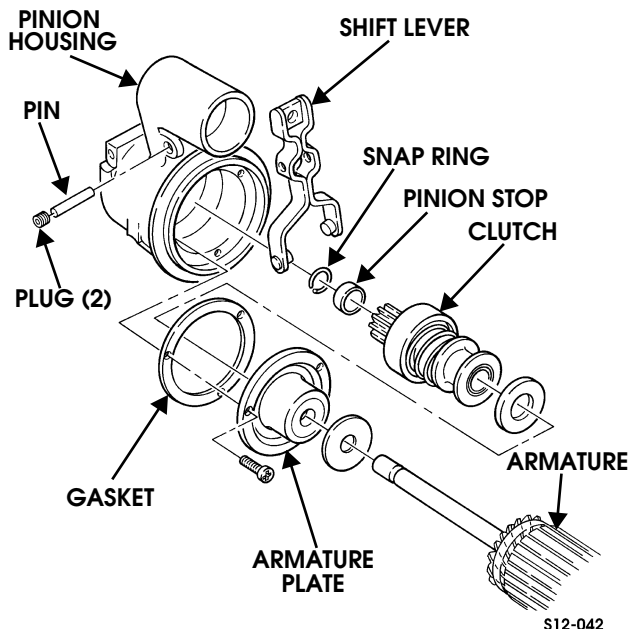

Figure 12-58: Starter Drive Disassembly
13. Remove two plugs and pin from pinion housing and shift lever (Figure 12-58).
16. Remove snap ring and pinion stop from armature shaft, and slide clutch off armature shaft (Figure 12-58).
17. Remove washer and plate from armature shaft (Figure 12-58).
15. Insert pin through pinion housing and shift lever. Then install two plugs in pinion housing (Figure 12-58).